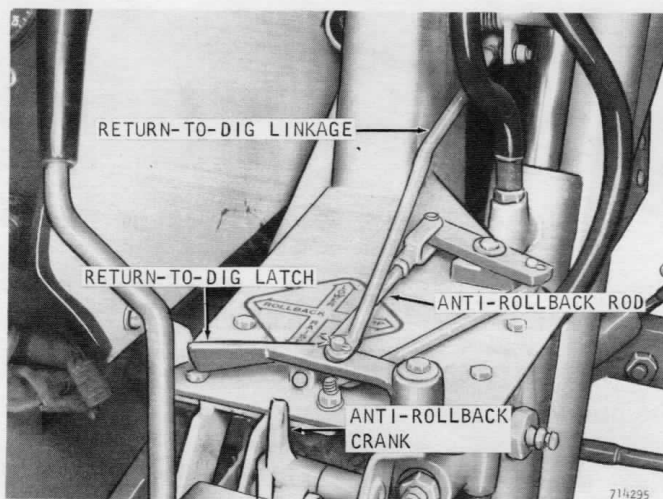

Figure 69 - Return-To-Dig and Anti-Rollback Linkage
1. Position the bucket flat on the floor (ground). Hold the control lever in the rollback position and make sure the anti-rollback crank, Figure 69, is not touching the control valve mounting plate. If the crank contacts the plate, shorten the linkage between the crank and the control lever.